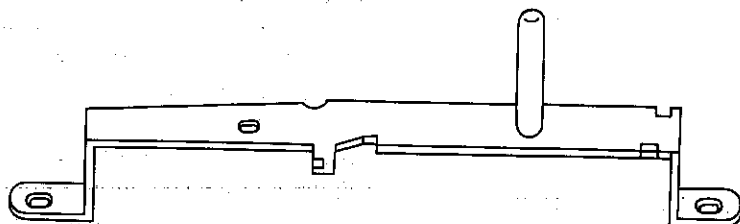

Figure 41.
3. Remove the two fastening screws of the cassette lock release angle 8012 assembly (cuptight XHPSD30P06 WSO) and remove the cassette lock release angle assembly. (Also remove the shifter spring of the cassette lock release angle and the video search auxiliary brake spring hook at that time). (See Figure 41)
4. Remove the two screws ⑥ (XBPSD30P06J00) fastening the reel motor and, holding the reel motor from the underside of the chassis, remove the reel motor. At this time, keep reel idler ④ moved to the left or right. Also remove the spring hook angle ⑨.